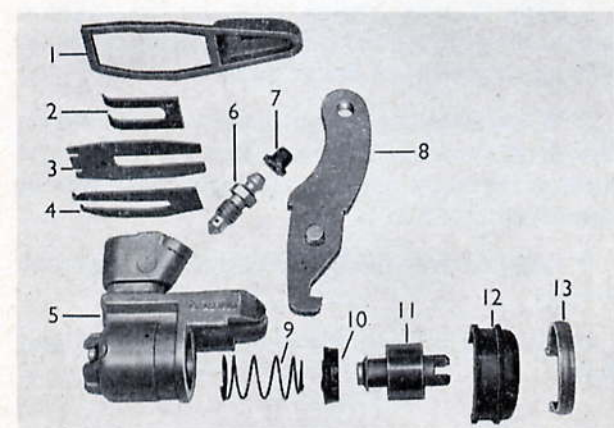

Fig. O.15. Rear brake cylinder and attaching parts—exploded view
1. Assemble a new seal to the piston, ensuring that the larger diameter is towards the inner end of the piston (Fig. O.15).
3. Locate the cylinder in the flange plate and install the spring plate and the locking plate from the lever side of the cylinder with the convex side of the spring towards the flange plate (Fig. O.15).